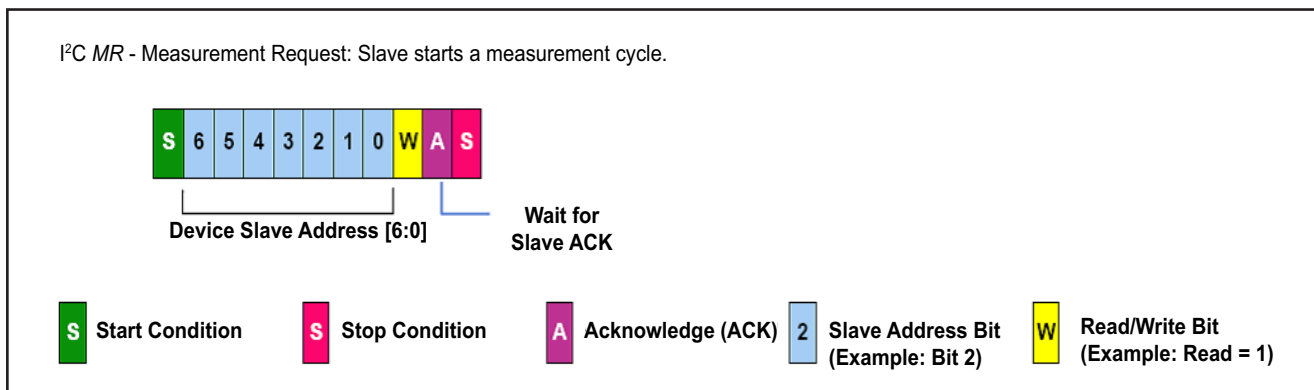

Figure 16: I²C Measurement Request
As shown in Figure 16 below, the communication contains only the slave address and the WRITE bit (0) sent by the master.